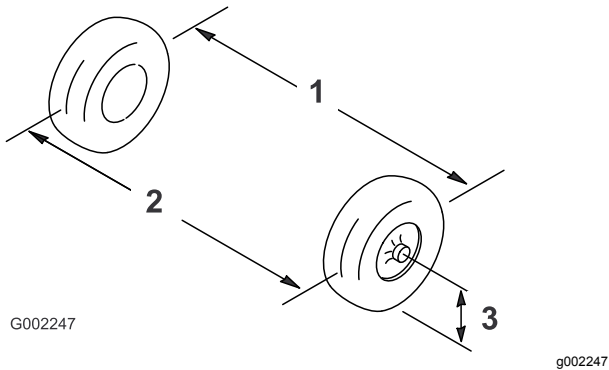

Figure 86
2. Measure the distance between both of the front tires at the axle height at both the front and rear of the front tires (Figure 86).